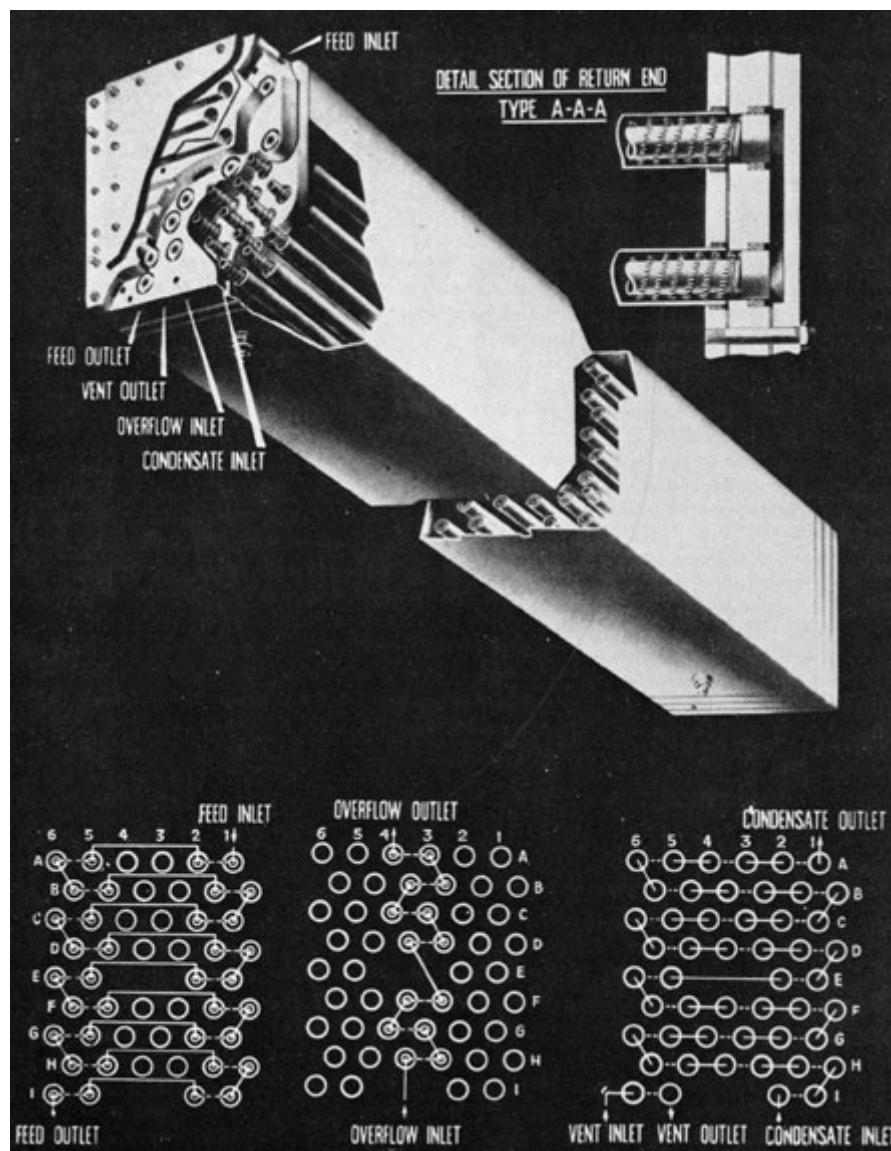

Figure 7-5. Heat exchanger.
**7E1. Heat exchanger.** The feed heat exchanger is a preheater which warms the incoming sea water feed. The sea water enters at ocean temperature, which varies according to location and season. It leaves the heat exchanger at about 200 degrees F. Hence, when the feed enters the evaporator, it needs to be raised only a few degrees more to reach the boiling point. The construction of this heat exchanger, and a diagram of the flow paths through it are shown in Figure 7-5.
warming the feed and cooling the distillate or condensate. The heat exchanger is of the double tube type. It consists of fifty 1 1/4-inches i.d., straight tubes, 45 inches long; and fifty 3/4-inch o.d., straight tubes, 48 inches long. The 3/4-inch tubes are externally finned with No. 18 gage copper nickel wire. There are also six tube sheets, three on each end. In the assembly of the heat exchanger, the large tubes are arranged in a bank and inserted in the inner tube sheets (Figure 7-5); the tubes are packed into these tube sheets with fiber and metallic packing to prevent leakage.
The flow diagrams in the lower right corner of Figure 7-5 show these four separate paths. The diagrams show the pipes as viewed from the inlet and looking toward the rear or return end; that is, the pipes are represented as circles. In order to describe the flow paths in a simple manner, the tubes are designated in accordance with the following plan.
means that the flow is away from the observer as he looks at the flow diagrams in Figure 7-5; that is, from the inlet and toward the return end. The term comes back means that the flow is in the opposite direction; that is, toward the observer, or from the return end to the inlet end. When it is said that the flow goes forward in a1, comes back in a2, it is naturally understood that the flow crosses from a1 to a2 in the return end header. When it is said that the flow comes back to a2, goes forward in a5, it is understood that the flow crosses from a2 to a5 in the inlet end header.
of the heat exchanger. It goes forward in I2, comes back in I1, goes forward in H1, comes back in H2, goes forward in H3, comes back in H4, goes forward in H5, comes back in H6, goes forward in G6, comes back in G5, goes forward in G4, comes back in G3, goes forward in G2, comes back in G1, and goes forward in F1. Continuing, it follows the same route, as may be seen in Figure 7-5, through the remaining rows. The condensate emerges cool from tube A1 at the inlet end of the heat exchanger.
Feed flow. The feed flows through 36 small tubes, entering cold at the top of the heat exchanger. It goes forward in a1, comes back in a2, goes forward in a5, comes back in a6, goes forward in b6, comes back in b5, goes forward in b2, and comes back in b1. Continuing, it follows the same route in rows c, d, e, f, g, h, and i, emerging hot from tube i6 at the inlet end of the heat exchanger, as may be seen in Figure 7-5.
Overflow path. The hot brine overflow uses the remaining 14 small tubes, entering hot at the bottom of the heat exchanger. It goes forward in h4, comes back in h3, goes forward in g3, and comes back in g4. Continuing, it follows the same route, as may be seen in Figure 7-5, in rows f, e, c, b, and a, emerging cool from tube a4 at the inlet end of the heat exchanger.